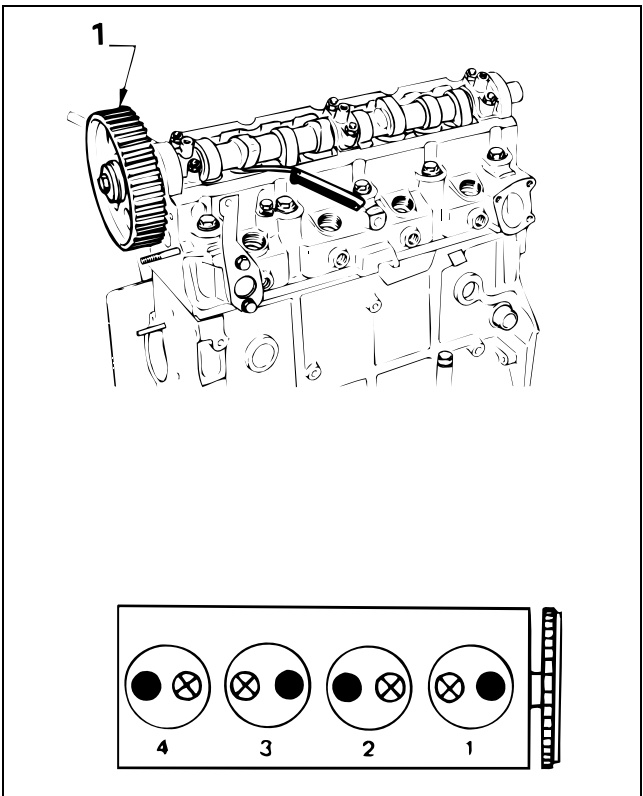

Figure 85
1. Install the camshaft gear. (Fig. 85, Item 1).